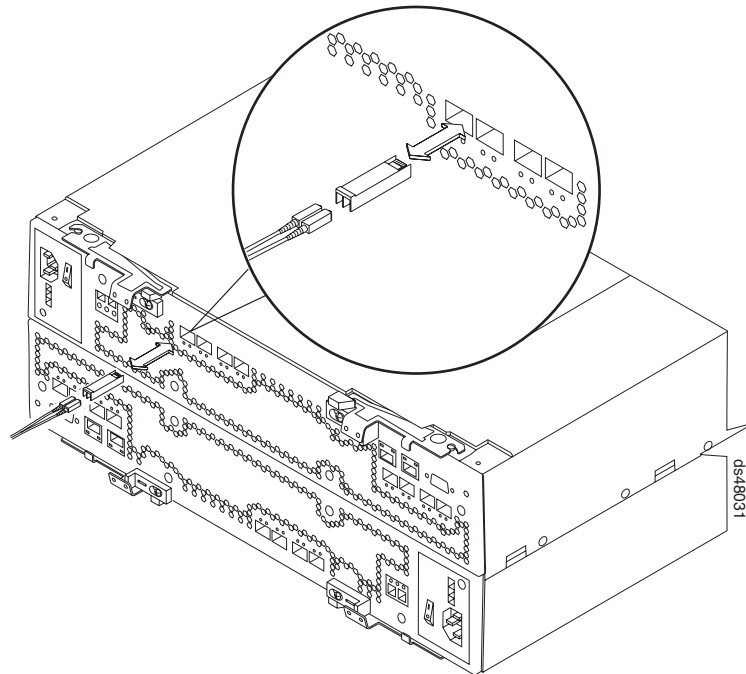

Figure 59. Installing an SFP module and LC-LC cable in a DS4800
1. Install an SFP module in the drive mini hub port on the back of the DS4800 Storage Subsystem, as shown in Figure 59 on page 85.